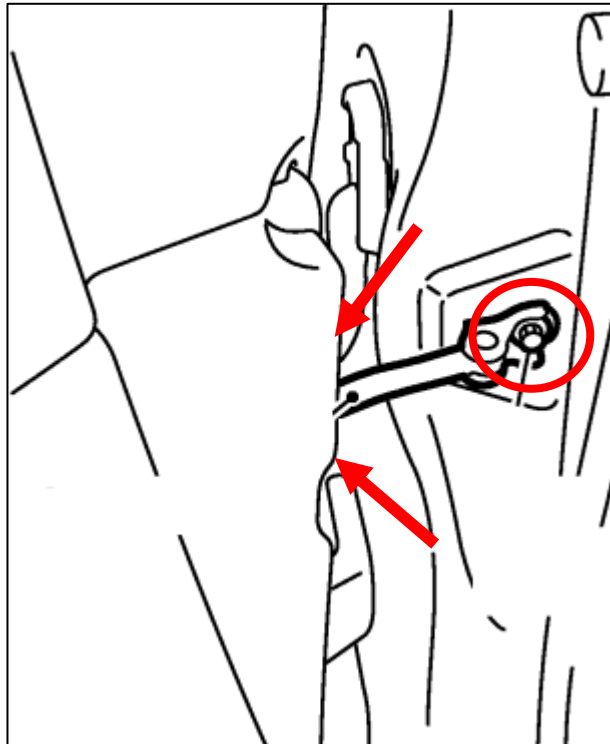

Figure 25
14. Open the door as wide as you can. Remove the (3) three Bolts in the Door securing the Check Link. *Figure 25.*